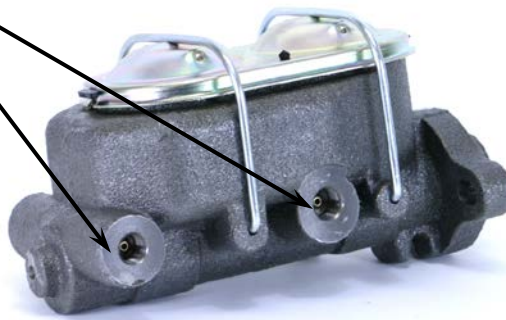

Figure 3 - Brake Line Orientation
11. Route the brake lines from the master cylinder to whatever valve is being used in the system. Refer to Figure 3 below for proper orientation of the brake lines to the master cylinder. If installing with a Master Power Brakes Combination Valve and bracket, refer to those instructions on proper plumbing of the valve.